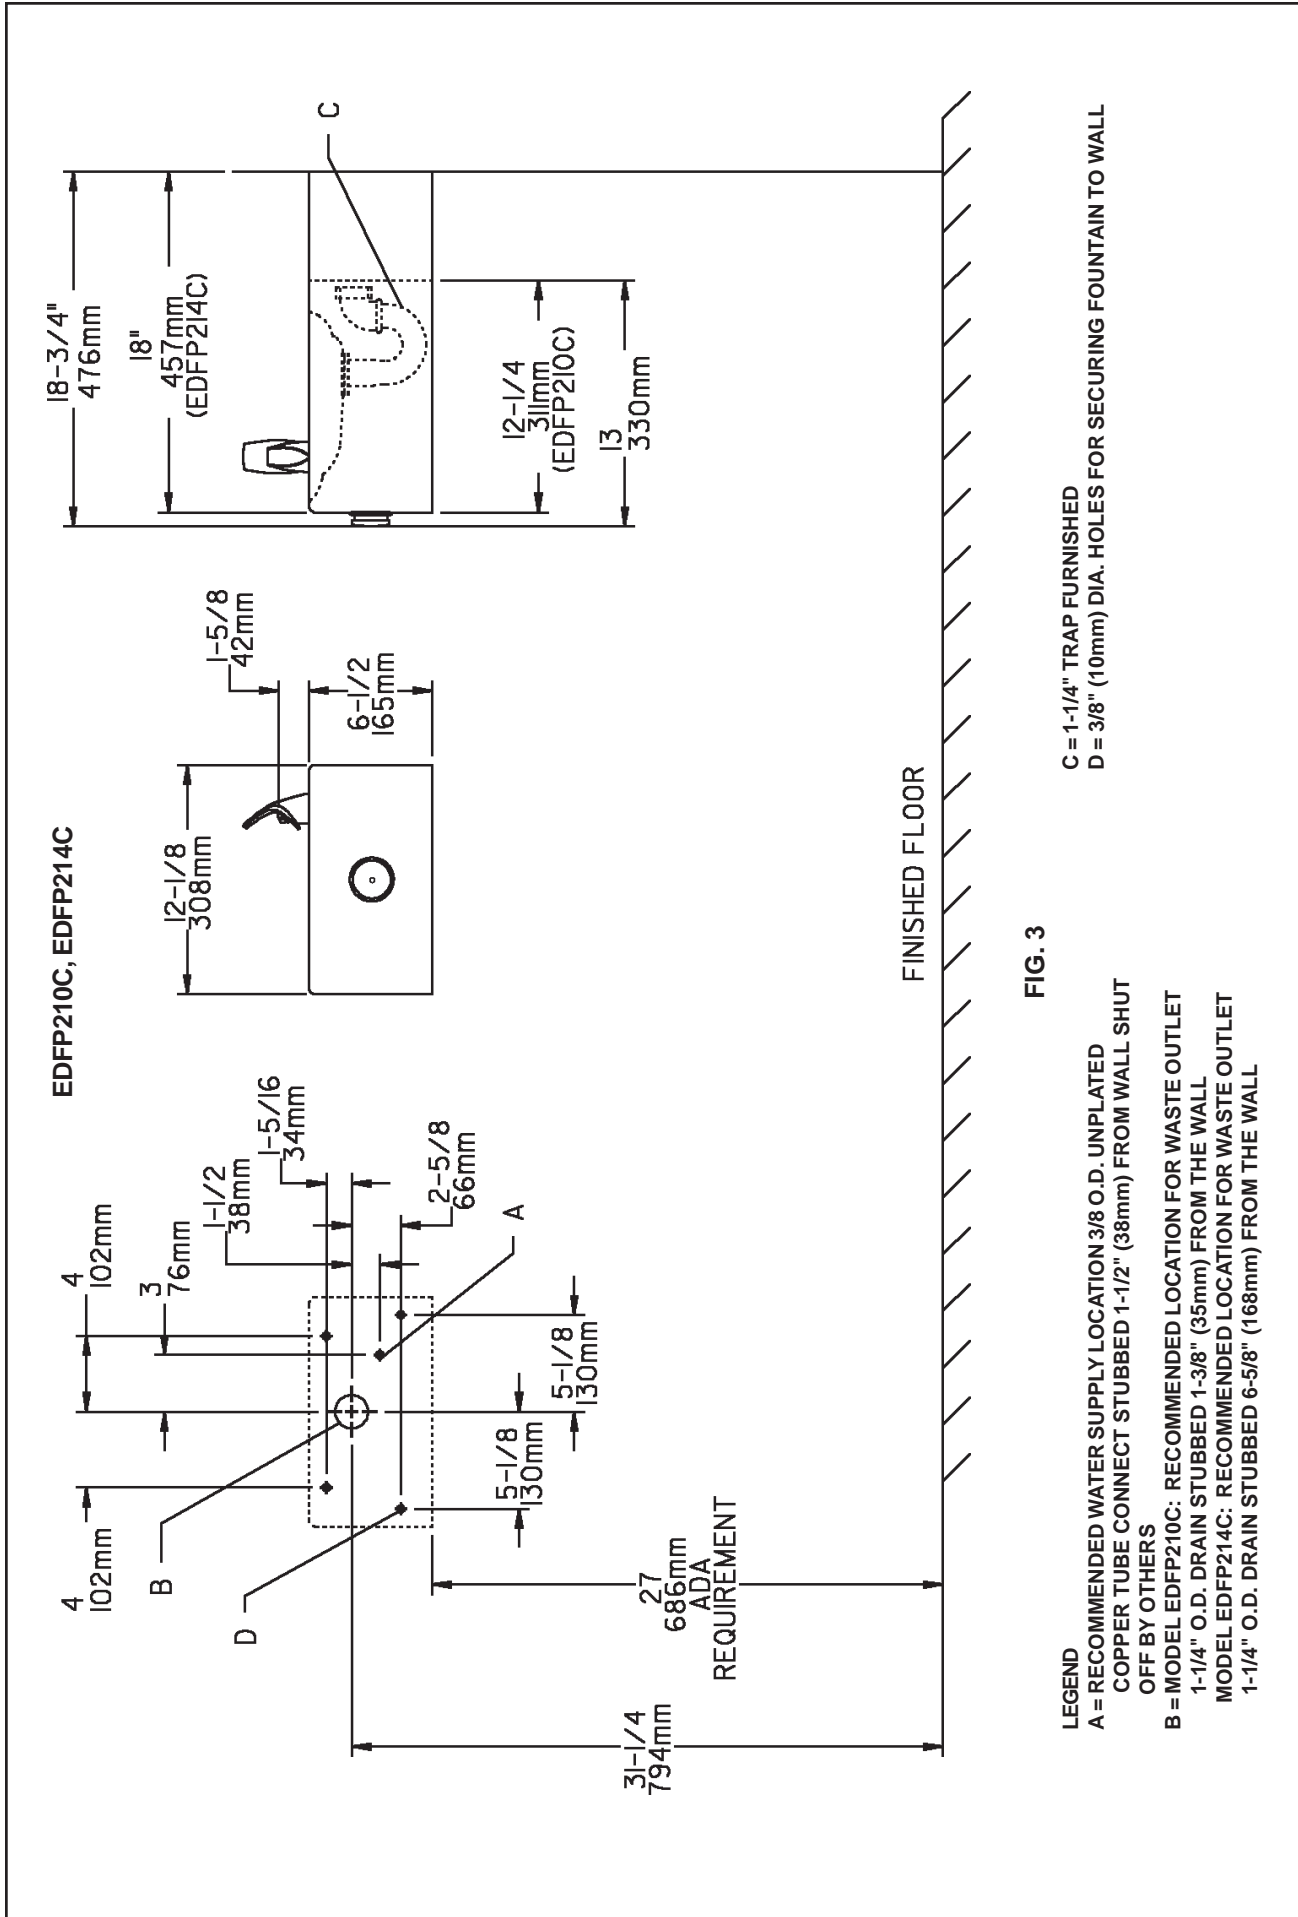

FIG. 3
1. **Wall** should already be framed for the fountain using the positioning dimensions shown in Figures 3 or 4. Shown dimensions pertain to installation location (framing must support up to 150 lbs. weight). These dimensions are required for compliance with ANSI Standard A117.0.
2. **Install** rough-in plumbing as shown in Figures 3 or 4. Waste line should extend a minimum of 2" (51mm) through the back panel. Run the supply water inlet line through the back panel. Install a service stop (not provided). Turn on supply water and flush thoroughly.
3. **Remove** bottom access panel from fountain basin and save the screws. Install the fountain to the back panel and wall using (4) 5/16" x 2" long lag bolts and washers (not provided) through holes in back panel. Tighten securely.